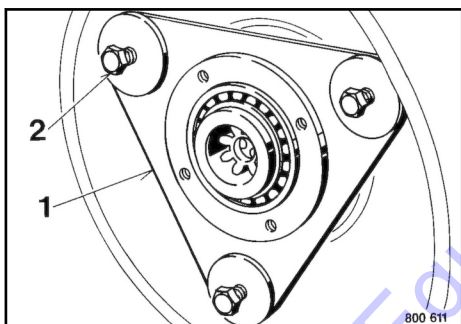

Fig. 223
4. Press flange 1 ↗ Fig. 223 off the bearing flange with forcing screws (2).